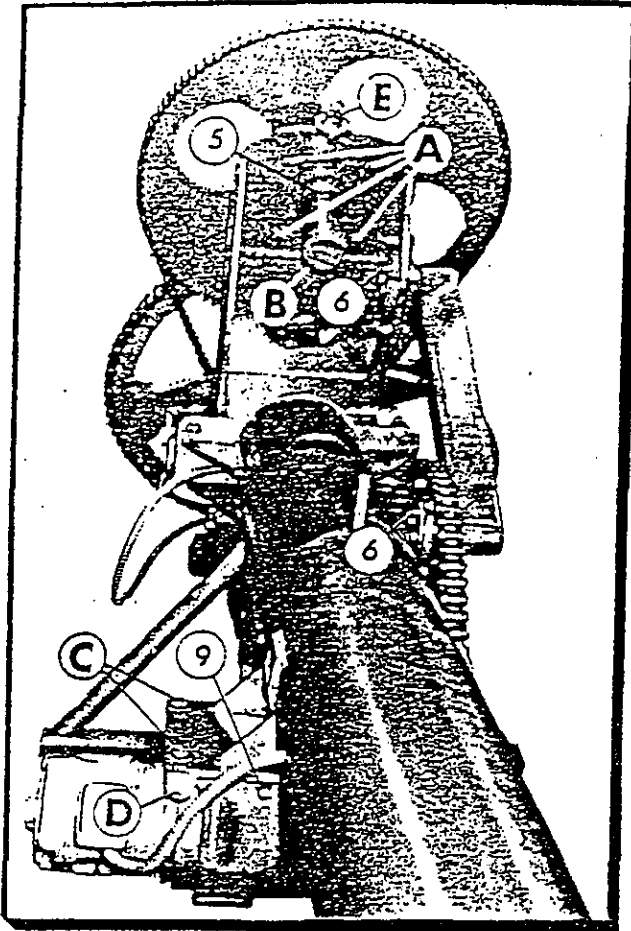
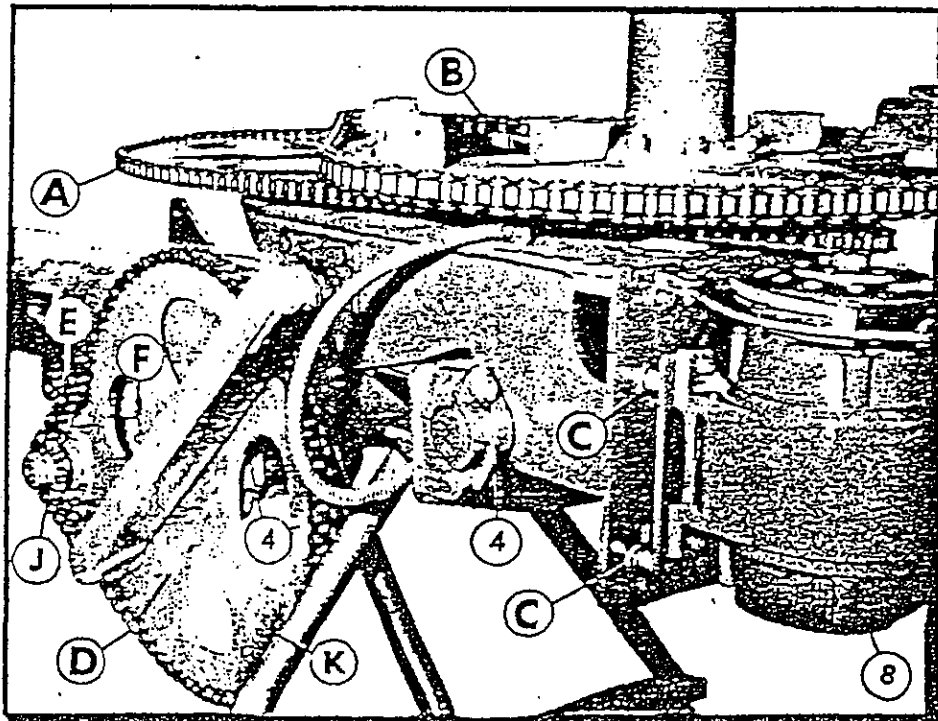

FIG. 1
FIG. 3
For the purpose of clarification, Ref.(A) Fig. 3, designates Motor Chain, Ref.(B) Fig. 3, Boom Chain and Ref.(D) Fig. 3, Tilt Chain.
To properly adjust the Motor and Boom Chains, all pressure should be relieved from the Motor Chain. This may be accomplished by removal of the Shim Washers, Ref.(C) Fig. 3, or by removing a link and separating the Chain. The four Bolts, Ref.(A) Fig. 1, should then be loosened to allow movement of the Countershaft Housing Flange, Ref.(B) Fig. 1 & 2. Adjuster Nut, Ref.(E) Fig. 1, is then tightened until approximately $3/4$ " depression of Chain is obtained by slight thumb pressure midway between the Countershaft and Boom Sprockets. If adjustment slots in the Countershaft Housing Flange are at maximum adjusting point, remove the half link and re-adjust the Chain. If there is no half link in Chain, remove a full link and install a half link. After proper adjustment of this Chain, tighten the four Bolts, Ref.(A) Fig. 1, and safety Adjuster Nut, Ref.(E) Fig. 1. The Motor Chain is then adjusted by Shim Washers, Ref.(C) Fig. 3, with variations of minimum and maximum adjustments compensated as described above by utilizing half links. Care should be exercised to properly align the Motor Sprocket with the Countershaft Sprocket, with horizontal alignment accomplished by shim washers and vertical alignment by slots provided on Motor Support 1. Brake adjustment, described below, is usually required after Motor Chain adjustment.
To properly adjust the Tilt Chain, Ref.(D) Fig. 3, loosen the Gear Unit Bolts, Ref.(C) Fig. 1 and Ref.(E) Fig. 3. Then loosen Adjusting Screw, Ref.(D) Fig. 1. Next, tighten Chain by turning Adjusting Stud, Ref.(F) Fig. 3, in until Chain can be depressed about $3/4$ ", midway between the Sprockets, by a slight thumb pressure. Secure in position by tightening Ad-
justing Screw, Ref.(D) Fig. 1, until it bears against the Gear Housing. Secure Gear Unit Bolts, Ref.(C) Fig. 1. To loosen Chains, reverse above procedures. The correct alignment of Sprocket, Ref.(J) Fig. 3, with Sprocket, Ref.(K) Fig. 3, is dependant upon it's proper location on the Gear Unit Shaft.
REFER TO PAGE 6 FIGURES 1, 2, 3 & 4